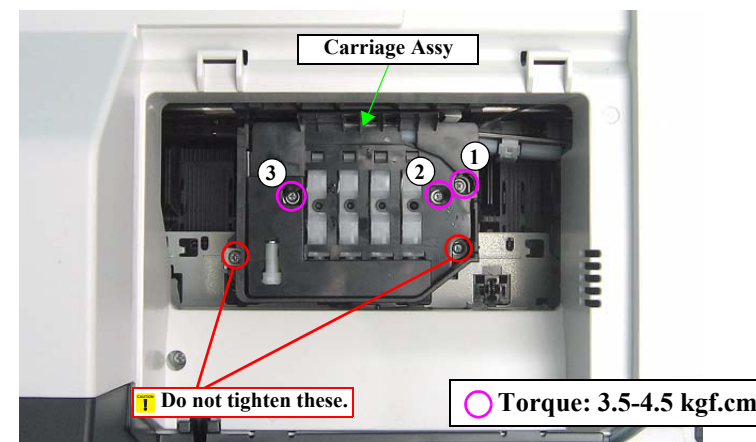

Figure 5-14. Head angular adjustment (4)
Do not use a electric screwdriver when tightening the screw in the next step. Make sure to use a torque screwdriver to keep the torque shown in Fig. 5-14.
8. Tighten the screws (x3: ) in the order given in Fig. 5-14 to secure the Printhead.